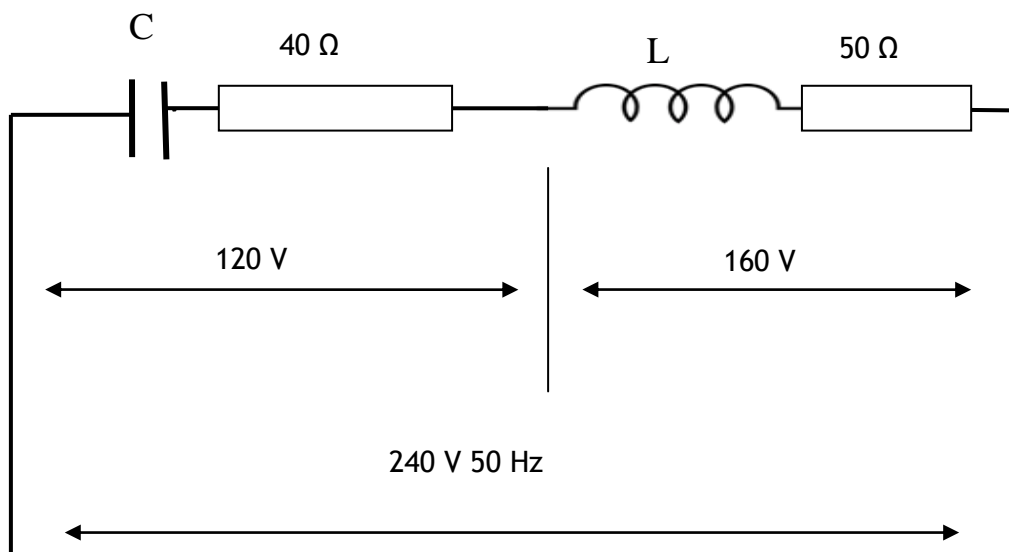

Fig Q4
- (a) the current in the non-linear resistor; (8)
- (b) the effective resistance of the non-linear resistor; (4)
- (c) The current in the 40 K Ω resistor. (4)
- (a) Draw the load line on the characteristics. (4)
- (i) the value of the collector load resistance; (4)
- (ii) the peak-to-peak variation in collector current if a signal of ± 40 mA is applied to the base; (2)
- (iii) the corresponding variation in collector voltage; (2)
- (iv) the power dissipated in the transistor due to this signal. (4)
4. An a.c. series circuit consists of four elements as shown in Fig Q4. The power dissipated in the $50\ \Omega$ resistor is $200\ \text{W}$ and the volt drops across the various parts of the circuit are as shown.